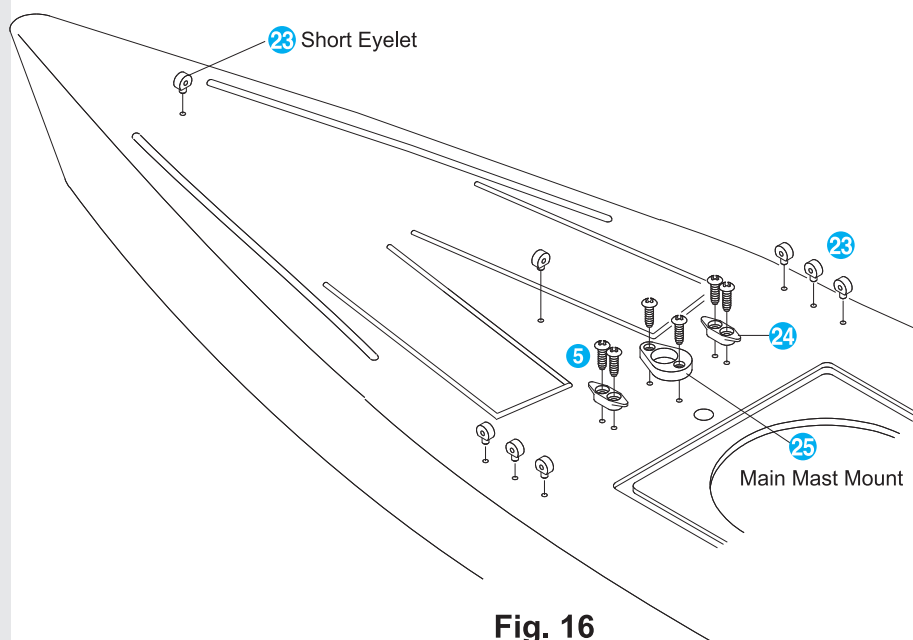

Fig. 16
2. Attach the eyelets to the hull using ABS glue, paying close attention to their proper direction, as shown in Fig. 16.